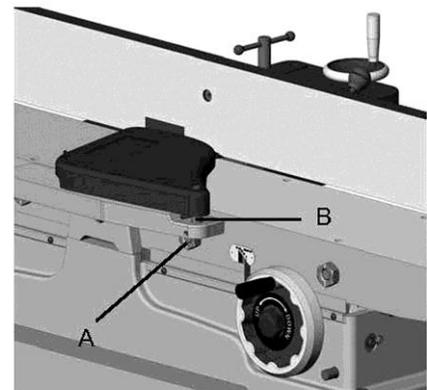

Fig. 3
2. Turn knob (A) counterclockwise (ccw) to create tension on spring, and hold it there. (See Fig. 3).
3. Insert guard post (B) down through hole in front of ledge.
4. Slightly turn knob (A), if necessary, until the guard seats itself, and the spring engages the slot at the end of the guard post.